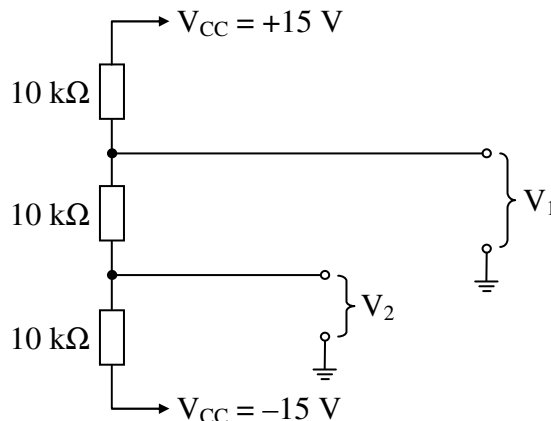
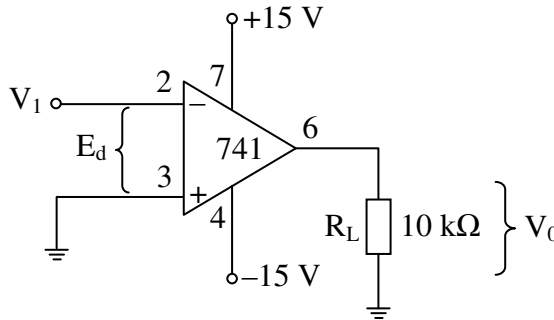
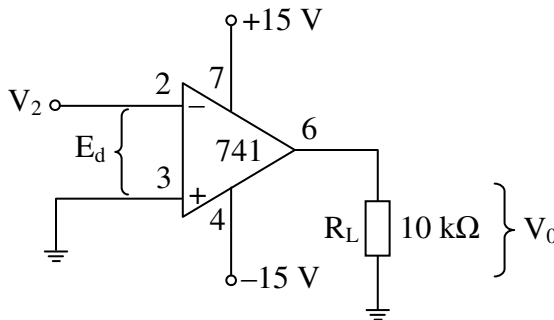

Fig. 8.9 Input voltages
Fig. 8.10
Fig. 8.11
1. Both the magnitude and polarity of V_0 are controlled by the input terminals of the op-amp. The magnitude $V_0 = A_{OL}E_d$ and the polarity of V_0 depend on the polarity of E_d , where $E_d = v^+ - v^-$. To demonstrate how the input terminals control V_0 , start by building Fig. 8.9. This circuit is simple resistor divider network to establish two input voltages V_1 and V_2 of approximately +5 V and -5 V, respectively.
3. Wire Fig. 8.10. Ground the (+) input terminal and connect V_1 (from Fig. 8.9) to the (–) input terminal. Calculate both the magnitude and polarity of E_d and V_0 :
5. Wire Fig. 8.11. Again ground the (+) input and connect V_2 (from Fig. 8.9) to the (–) input terminal. Again calculate both the magnitude and polarity of E_d and V_0 :
7. Wire Fig. 8.12 to observe the effect of two input voltages applied simultaneously to the op-amp. Use Fig. 8.9 to apply V_1 to the (–) input and V_2 to the (+) input terminals. Calculate both the magnitude and polarity of E_d and V_0 : $E_d = v^+ - v^- = V_2 - V_1 = \underline{\hspace{2cm}};$